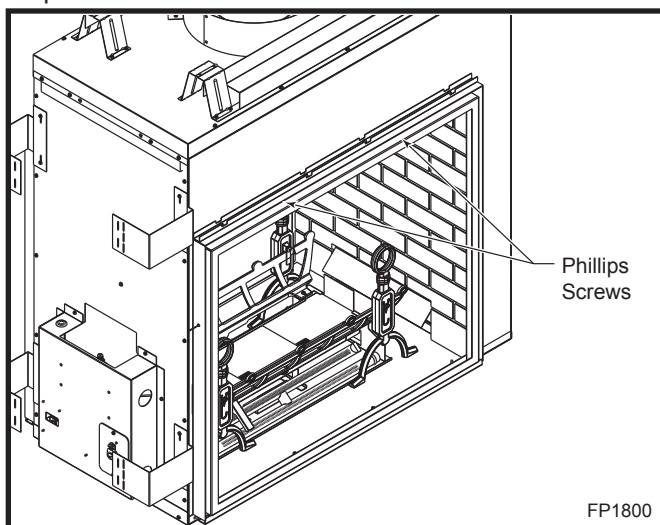

Fig. 40 Remove Phillips screws, tilt frame forward and lift off bottom door track.
3. Using a Phillips screwdriver, unfasten two (2) screws located at the top of the glass frame. (Fig. 40)